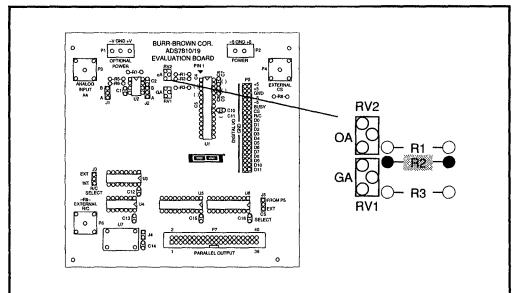

FIGURE 8. Factory Settings for Step 3.
- A) To adjust offset, install RV2 (5k Ω) and R1 (4.99k Ω), ground the input, then adjust RV2. See Figure 8 for location of RV2 and R1.
- B) To adjust gain, install RV1 (5k Ω) and R3 (221k Ω), then adjust RV1. Do this for +full scale and -full scale. See Figure 8.